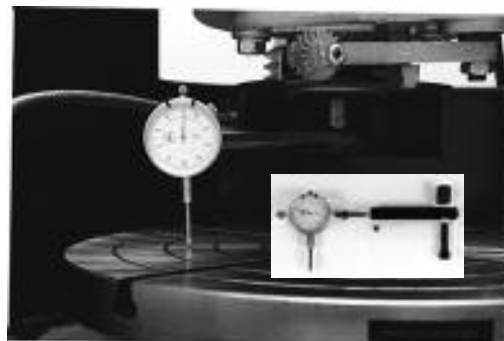

Figure 30 Optional – Part # 794-8627-83
- 2.** Tilt may be checked by attaching the Optional Dial Indicator and Mounting Hardware, Part Number 794-8685-32, to grinder motor (Figure 30), and lowering head until indicator touches table. Rotate indicator (and motor shaft) from front to back and note direction and amount of indicator travel.